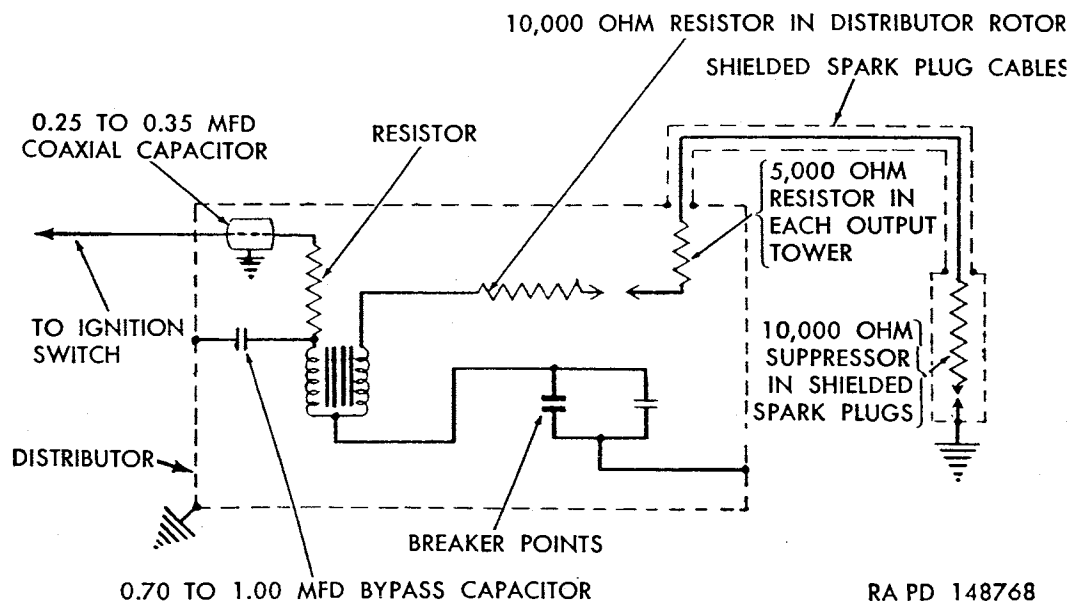

Figure 180. Schematic circuit diagram of ignition system radio suppression units.
a. Description and Data (fig. 180). The primary connection at the distributor terminal is equipped with a 0.25 to 0.35 mfd coaxial capacitor which is grounded to the distributor housing. A resistor is connected into the primary circuit ahead of the ignition coil. A 0.70 to 1.00 mfd bypass capacitor is connected to the ignition coil positive (+) terminal and grounded to the distributor housing. A 10,000-ohm resistor is built into the distributor rotor, and each output tower in the distributor cover is equipped with a 5,000-ohm resistor. Spark plug cables are shielded with a metallic braid molded into the cable insulation. A 10,000-ohm resistor is built into each spark plug. Spark plugs are shielded by the metal shells to which the cables connect. Capacitors and the primary circuit resistor can be replaced if defective.